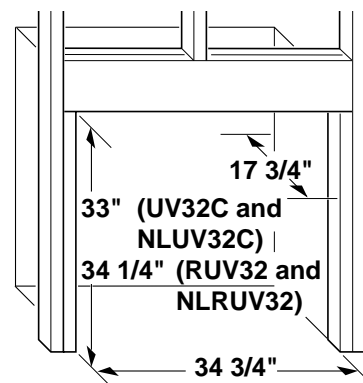
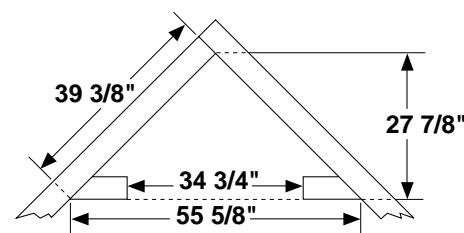

Figure 16 - Rough Opening for Installing in Wall
Figure 17 - Rough Opening for Installing in Corner
1. Frame in rough opening. Use dimensions shown in Figure 16 for the rough opening
If installing in a corner, use dimensions shown in Figure 17 for the rough opening. The height is 33" (UV32C and NLUV32C) or 34 1/4" (RUV32 and NLRUV32), which is the same as the wall opening in Figure 16.